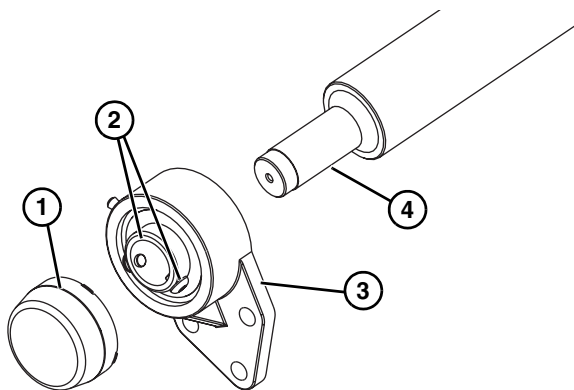

Figure 95
2. Remove the bearing cover (**Figure 95, item 1**).
3. Use a hex wrench to loosen the bearing shaft assembly fasteners (**Figure 95, item 2**).
4. Slide the bearing flange assembly (**Figure 95, item 3**), off the spindle shaft end (**Figure 95, item 4**).